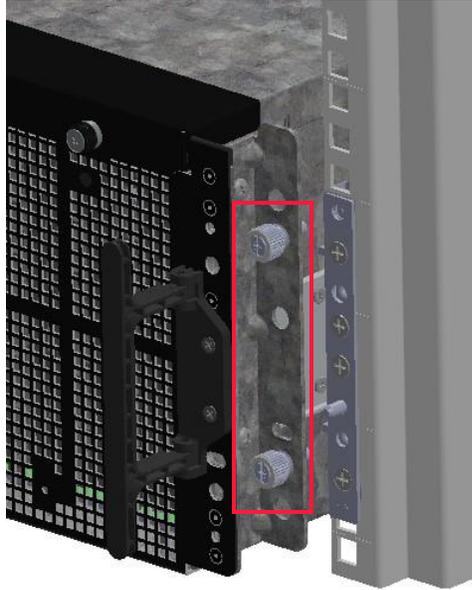

Figure 5.13 Rack thumbscrews
2. Tighten the two left and two right thumbscrews on the enclosure. The right thumbscrews are shown in Figure 5.13.